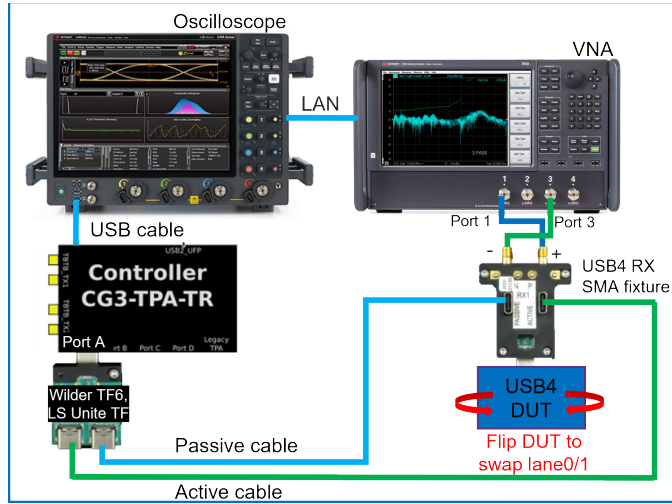

Figure 168 Tx Return loss test setup with Rx SMA test fixture
- 1 For the physical connections between the DUT & the Oscilloscope, see the connection diagrams in Figure 168 and Figure 169.